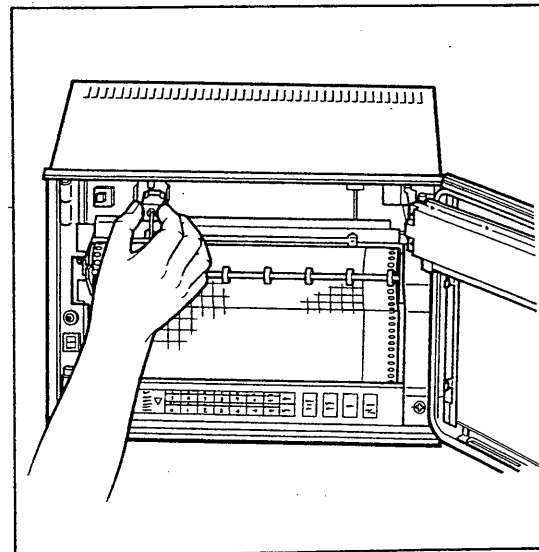

Figure 5-16. Replacing Felt-Tip Pen.
- (3) Grasp the protruding part of the felt-tip pen cartridge and gently pull it out of the cartridge holder. (See Figure 5-16).
- (4) Insert a new felt-tip pen cartridge in the pen cartridge holder. (See Figure 5-16).